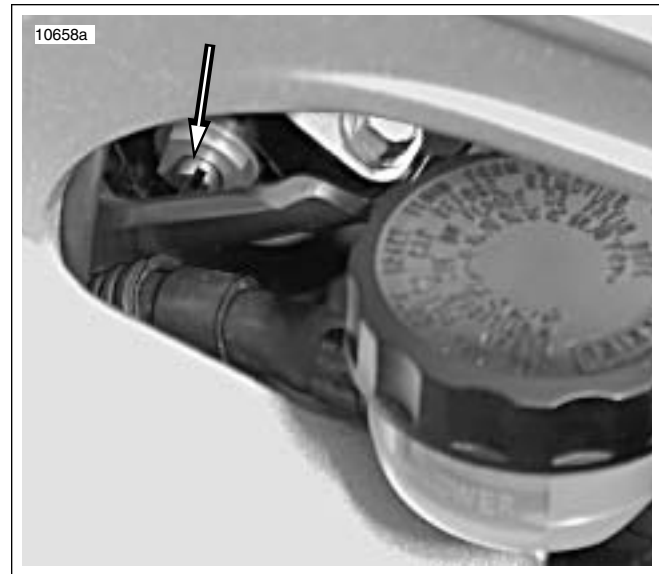

Figure 1-39. Rear Shock Compression Adjuster
1. See Figure 1-39. Using a screwdriver, turn the slotted dial clockwise until it stops. This is the maximum compression damping setting.